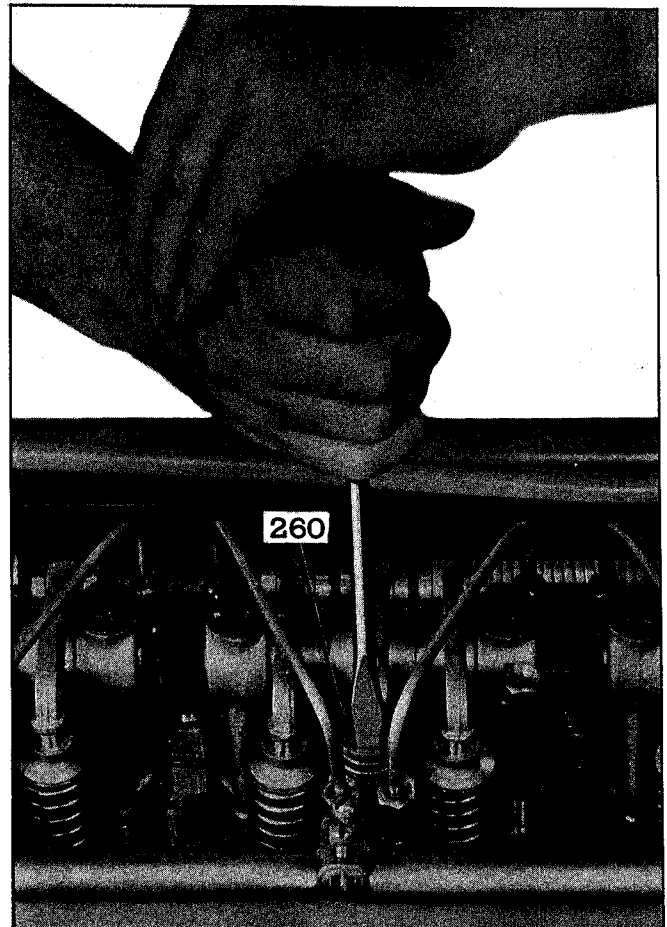

Fig. 1—Locating a Misfiring Cylinder.
4. Hold the No. 1 injector follower down with a screw driver (see Fig. 1), thus preventing operation of the injector.